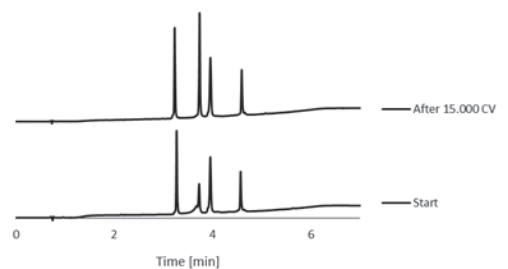

Figure 2
Chromolith® WP columns were burdened with 15.000 column volumes (CV) of water and acetonitrile containing 0.1% TFA. The chromatographic change in separation behavior is shown in Figure 2.